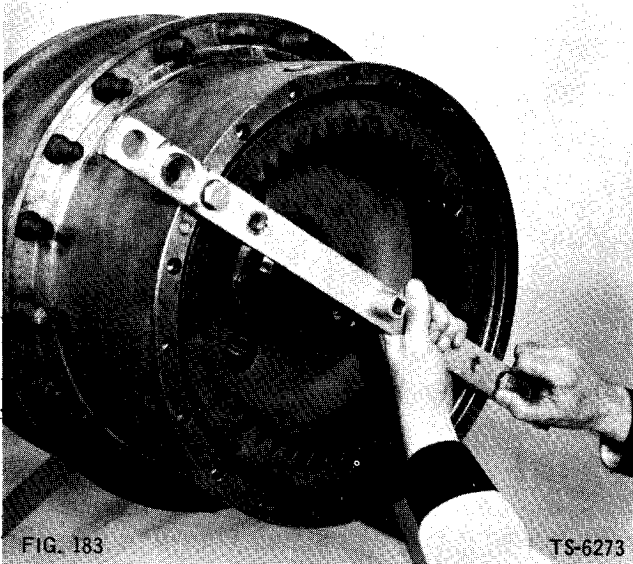
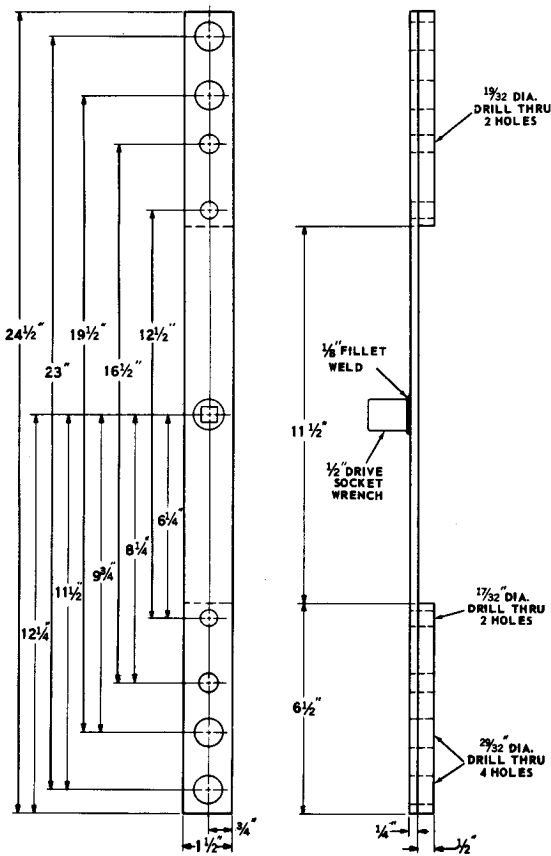

FIG. 183
FIG. 184
28. Install torque wrench adapter bar, as shown in Fig. 183. The adapter bar can be fabricated locally to specifications outlined in Fig. 184. Bar illustrated will accommodate wheel hubs with planetary bolt circle diameters of 12 1/2, 16 1/2, 19 1/2, and 23 inches.